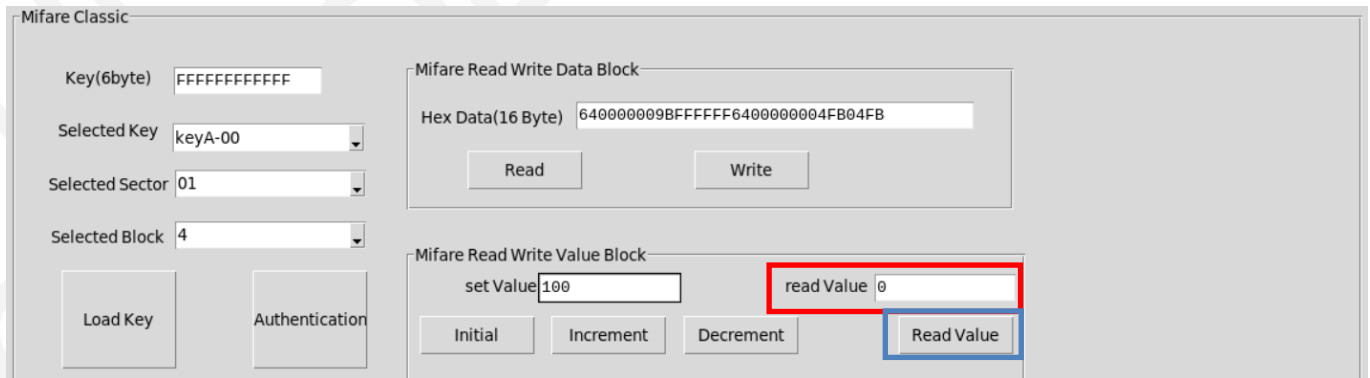

Figure 6.6-1 Read value displayed at GUI
- Value of response will displayed at GUI, as shown in Figure 6.6-1.